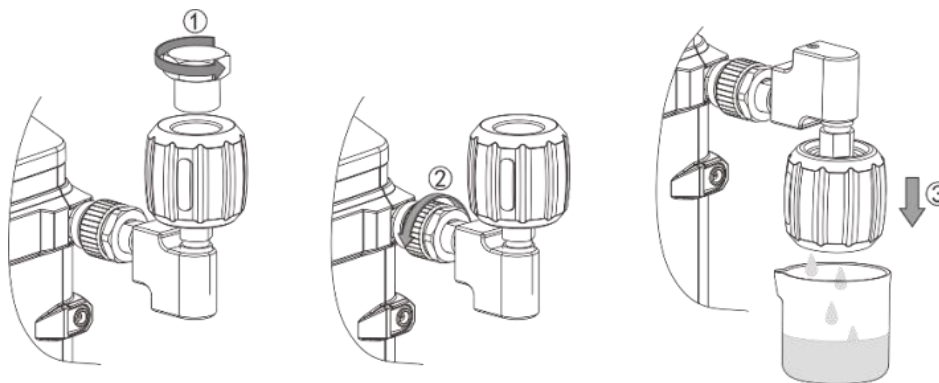

Figure 28 Prepare for liquid replacement when vented
- ◆ In case of the pressure is too high, vent it at first. Click  and wait the vent finishes, then refer to Figure 28.
- ◆ Follow the steps in Figure 28 to prepare for the liquid replacement.